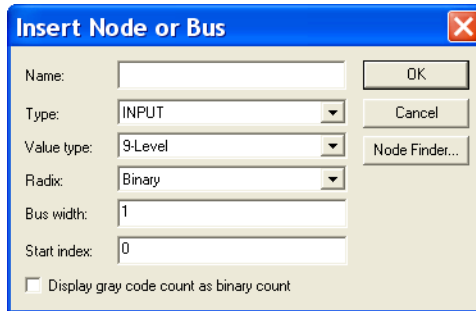
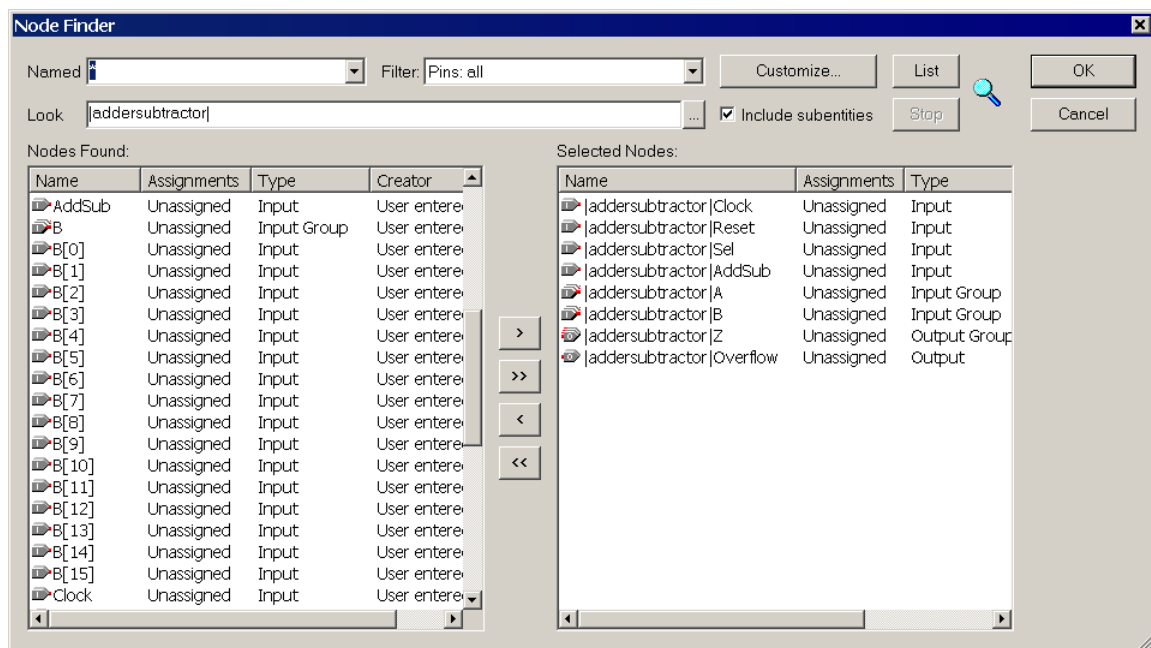
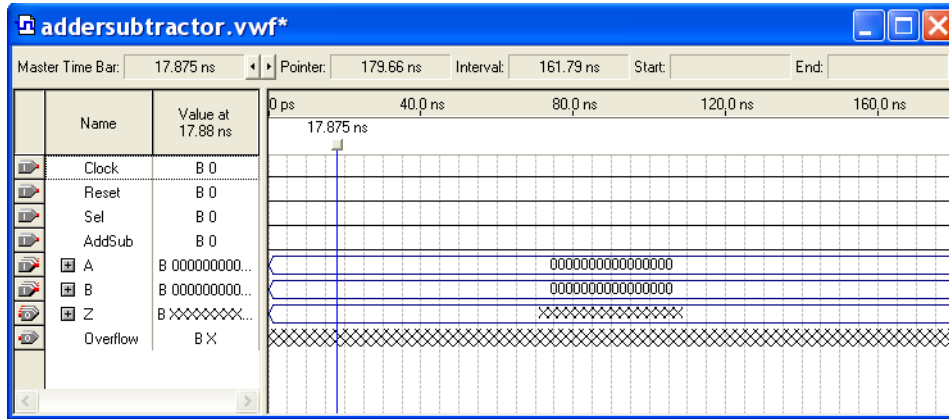

Figure 6. The Insert Node or Bus dialogue.
Figure 7. Selecting nodes to insert into the Waveform Editor.
Figure 8. The nodes needed for simulation.
3. Next, we want to include the input and output nodes of the circuit to be simulated. Click **Edit > Insert Node or Bus** to open the window in Figure 6. It is possible to type the full hierarchical name of a signal (pin) into the Name box, but it is easier to click on the button labeled **Node Finder** to open the window in Figure 7. The Node Finder utility has a filter used to indicate what type nodes are to be found. Since we are interested in input and output pins, set the filter to **Pins: all**. Click the **List** button to find the pin names as indicated on the left side of the figure. Observe that the input and output signals *A*, *B*, and *Z* can be selected either as individual nodes (denoted by bracketed subscripts) or as 16-bit vectors, which is a more convenient form.
Use the scroll bar inside the Nodes Found box in Figure 7 to find the *Clock* signal. Click on this signal and then click the > sign in the middle of the window to add it to the Selected Nodes box on the right side of the figure. Do the same for *Reset*, *Sel*, and *AddSub*. Then choose vectors *A*, *B* and *Z*, as well as the output *Overflow*, in the same way. (Several nodes can be selected simultaneously in a standard Windows manner.) Click OK to close the Node Finder window, and then click OK in the window of Figure 6. This leaves a fully displayed Waveform Editor window, as shown in Figure 8. If you did not select the nodes in the same order as displayed in Figure 8, it is possible to rearrange them. To move a waveform up or down in the Waveform Editor window, click on the node name (in the Name column) and release the mouse button. The waveform is now highlighted to show the selection. Click again on the waveform and drag it up or down in the Waveform Editor.